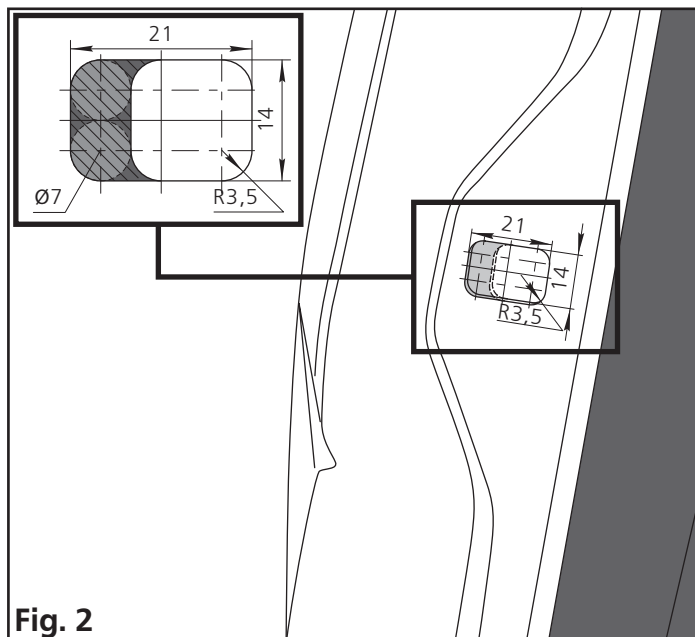

Fig. 2
2. Modify the standard hole for the movable finger of the upper door closer (Fig. 2).